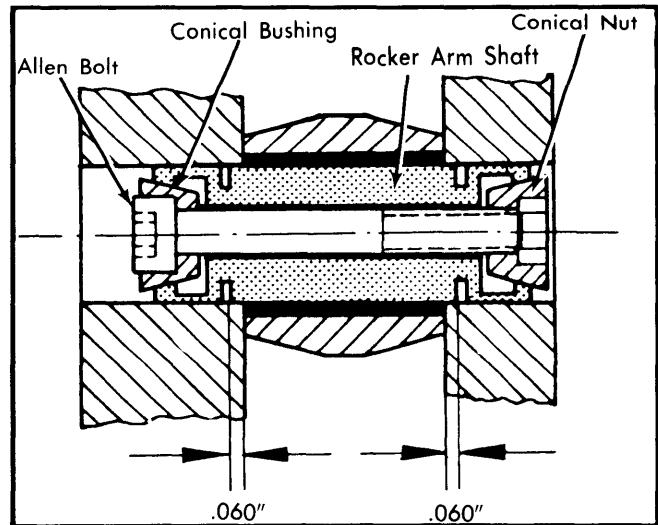

Fig. 2 Cross Sectional View of Rocker Arm Shaft Assembly
4) Install rocker arms and shafts. Install rocker arm shaft with approximately .060" (1.52 mm) clearance between shaft grooves and mounting face; see Fig. 2. Tighten Allen bolts to 13 ft. lbs. (1.8 mkg), using suitable tools (P 210 & P 211).
3) Install rocker arm shaft. Center rocker arm shaft in housing; see Fig. 2. Tighten rocker arm Allen bolt.